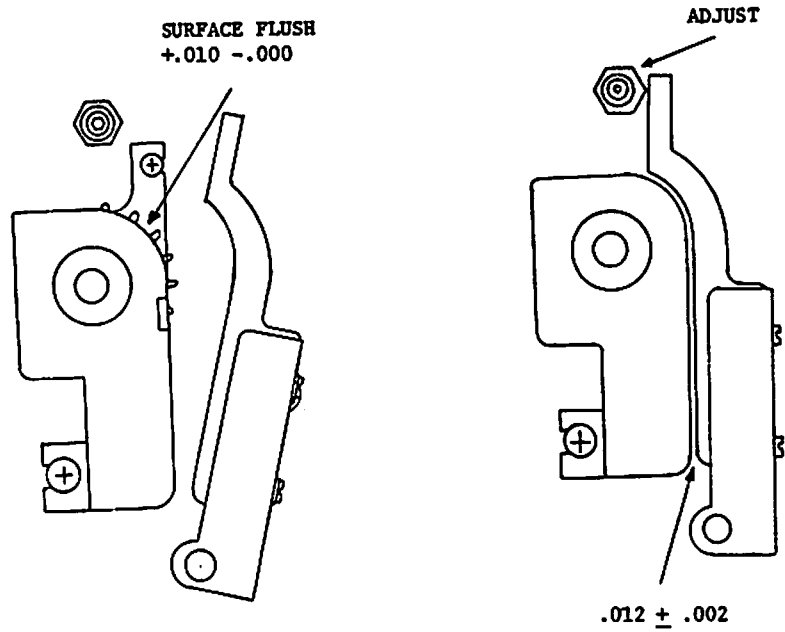

FIGURE 5-22 VERTICAL FORMAT HOUSING ADJUSTMENTS
- 1) The sprocket and housing are separate parts, hence with cover open, loosen the two screws holding the housing (Figure 5-22). Move the housing so that the base of the sprocket is flush with the housing.
- 2) Adjust cover stop eccentric to set a gap of $.012" \pm .002"$ ($.31 \text{ mm} \pm .06 \text{ mm}$) between the cover and housing (Figure 5-22).